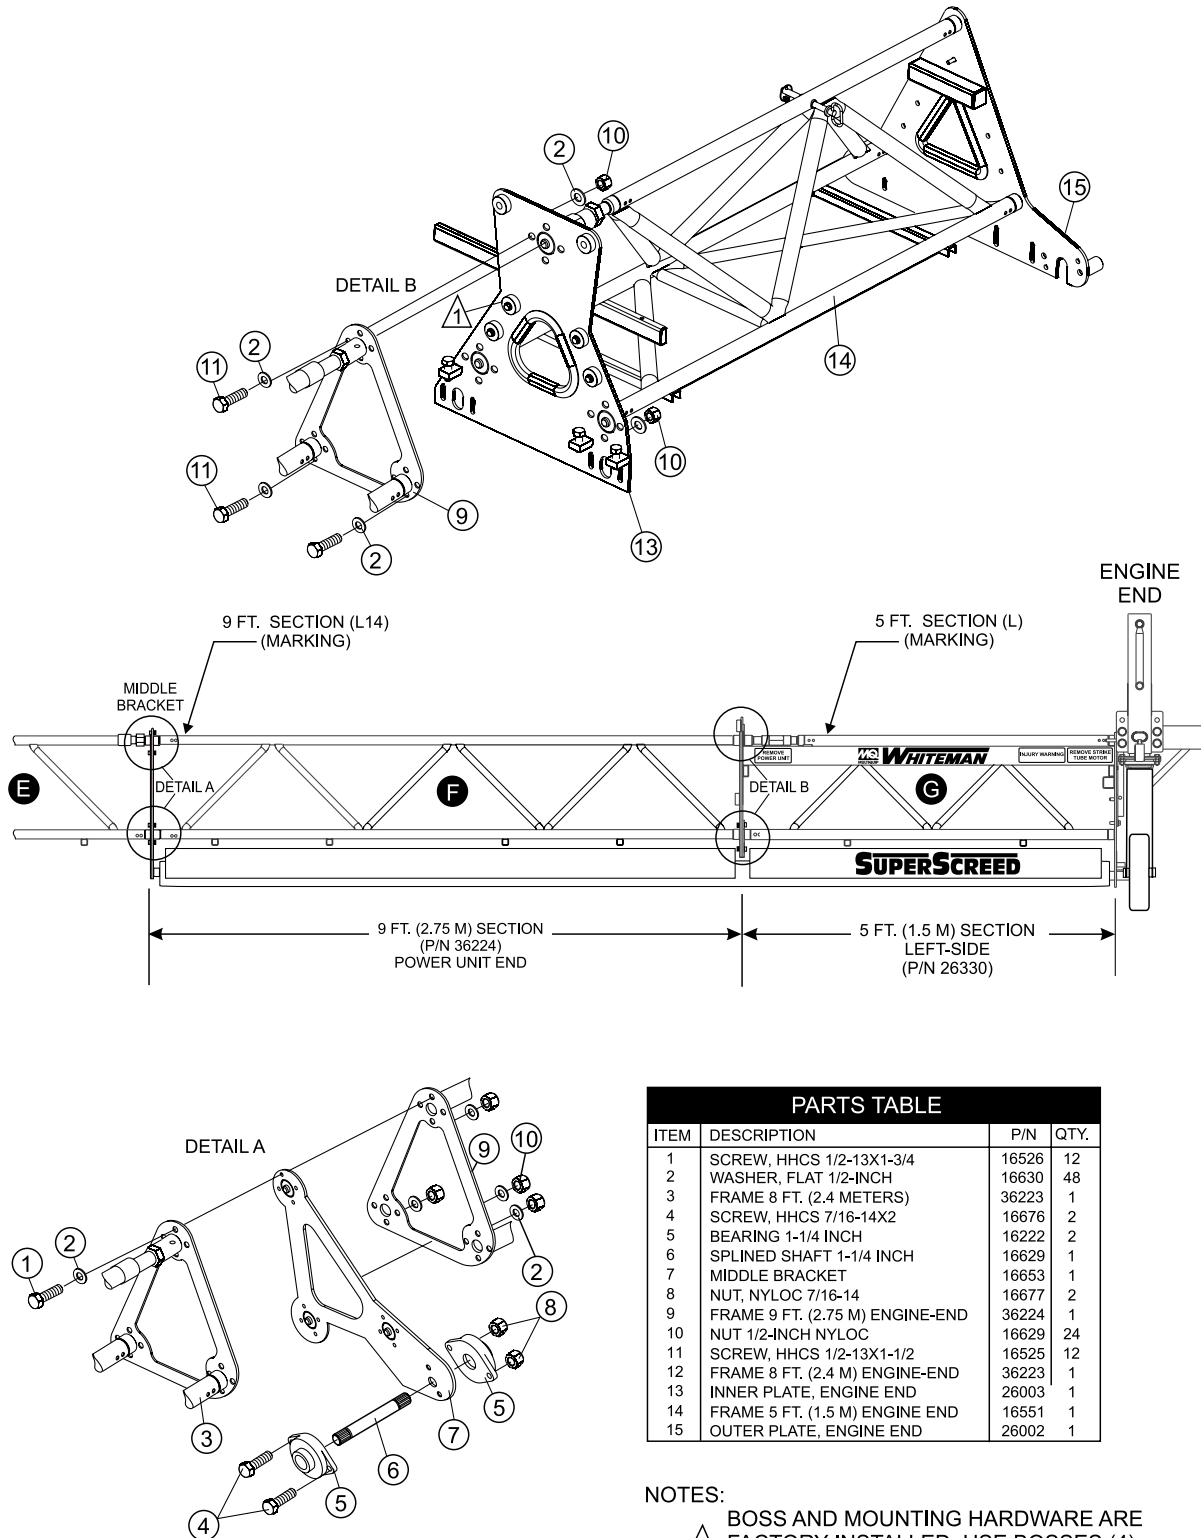

Figure 18. Engine End Left Truss Sections (14 ft./4.25 meters)
### Task 5: Engine End Truss Sections (Reference Figure 18)
1. Insert splined shaft into middle mounting bracket as shown in Figure 18.
3. Secure strike tube support bearing with 7/16-14x2 HHSC screws (2) and 7/16 nyloc nuts (2). Torque bearing support nuts to 75 FT-LBS ( 102 N·m).